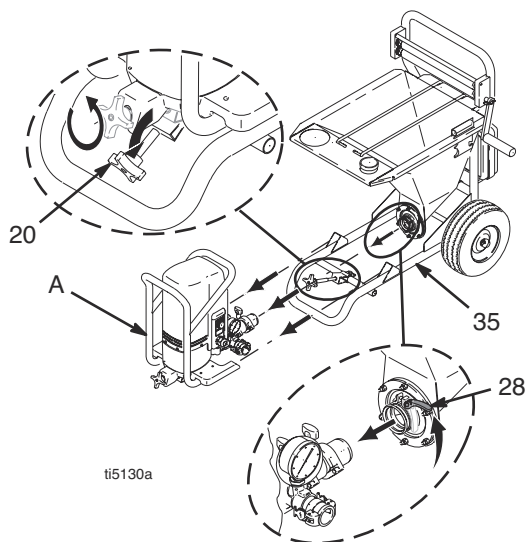

FIG. 5
6. Fig. 5. Remove screws (41) and discard brushes (B) for motor with capacitor attached.
2. Fig. 5. Remove pump module (A).
- a. Loosen clamp rod (20).
- b. Release hopper quick-release clamp (28).
- c. Disconnect pump module (A) from frame (35).